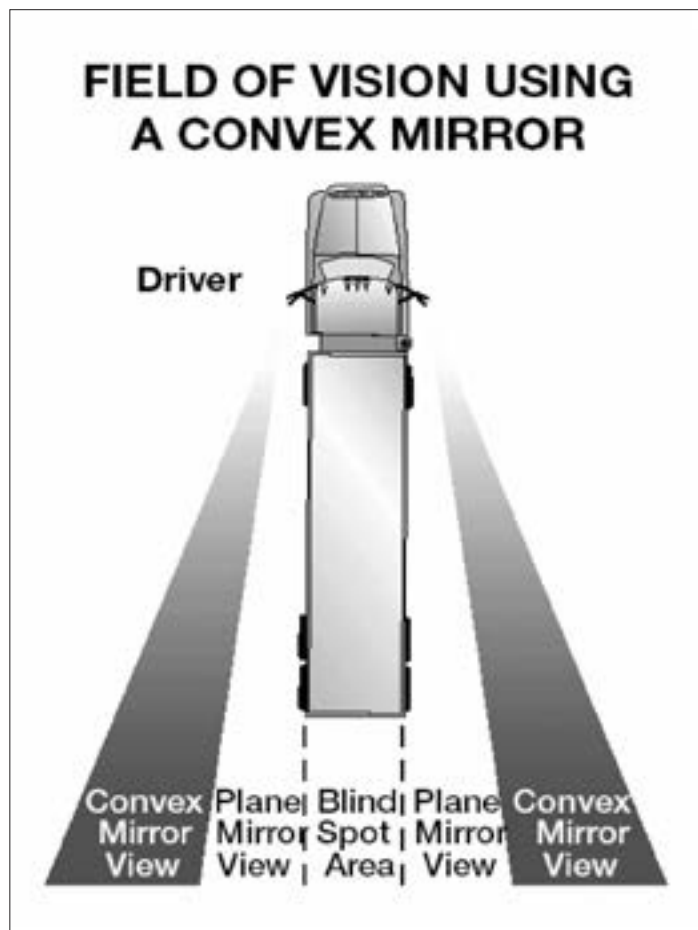

Figure 2.7
- Many large vehicles have curved (convex, “fisheye,” “spot,” “bugeye”) mirrors that show a wider area than flat mirrors. This is often helpful. But everything appears smaller in a convex mirror than it would if you were looking at it directly. Things also seem farther away than they really are. It's important to realize this and to allow for it. Figure 2.7 shows the field of vision using a convex mirror.